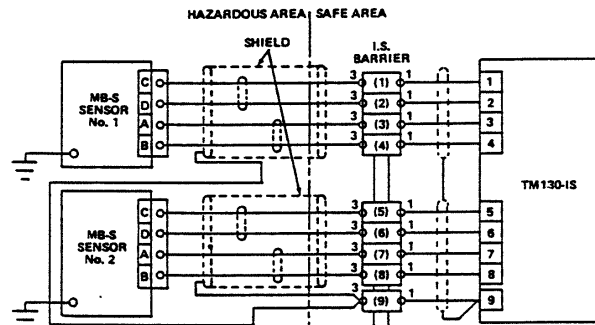

FIGURE 7
E. Electrical Connections — TM130-IS (See Fig. 7).
1. Connect Terminal 1 of Barrier 1 to Terminal 1 of "TM130-IS", Terminal 1 of Barrier 2 to Terminal 2 of "TM130-IS", etc., until all connections have been made (See Fig. 7).
2. Connect both shields and Terminal 1 of Barrier 9, to Terminal 9 of "TM130-IS" (See Fig. 7).